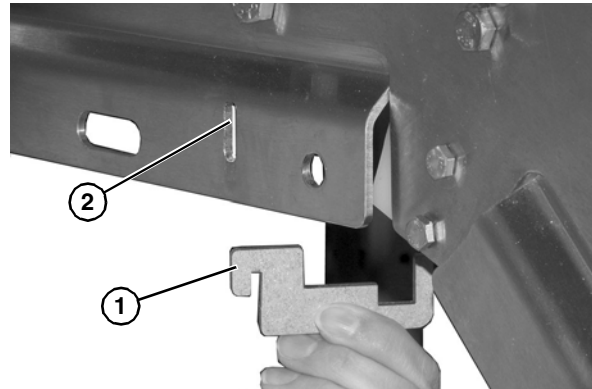

Figure 34
1. Install belt return mounting bracket (**Figure 34, item 1**) into slotted frame hole (**Figure 34, item 2**).